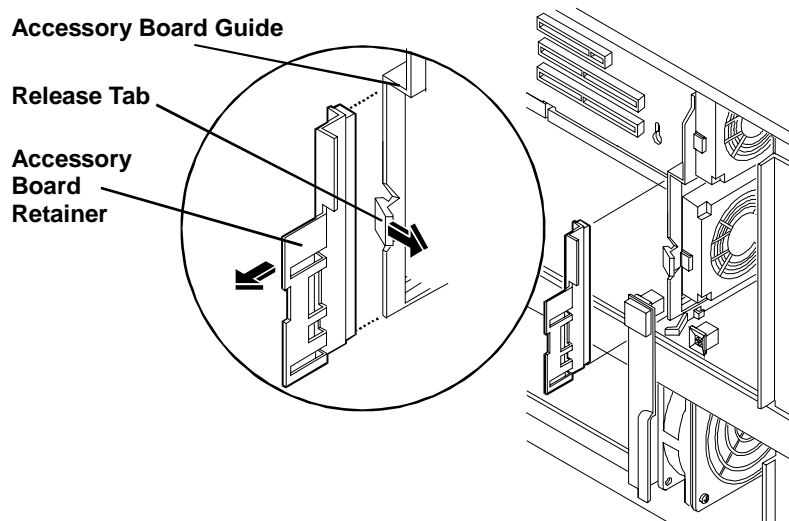

Figure 4-4. Accessory Board Retainer and Guide
2. Remove the slot cover for each slot to be used, and store it for future use. If you are installing any full-length PCI boards, also remove the accessory board retainer (see Figure 4-4). Push on the tab on the retainer to release it, and then slide it out of the board guide.